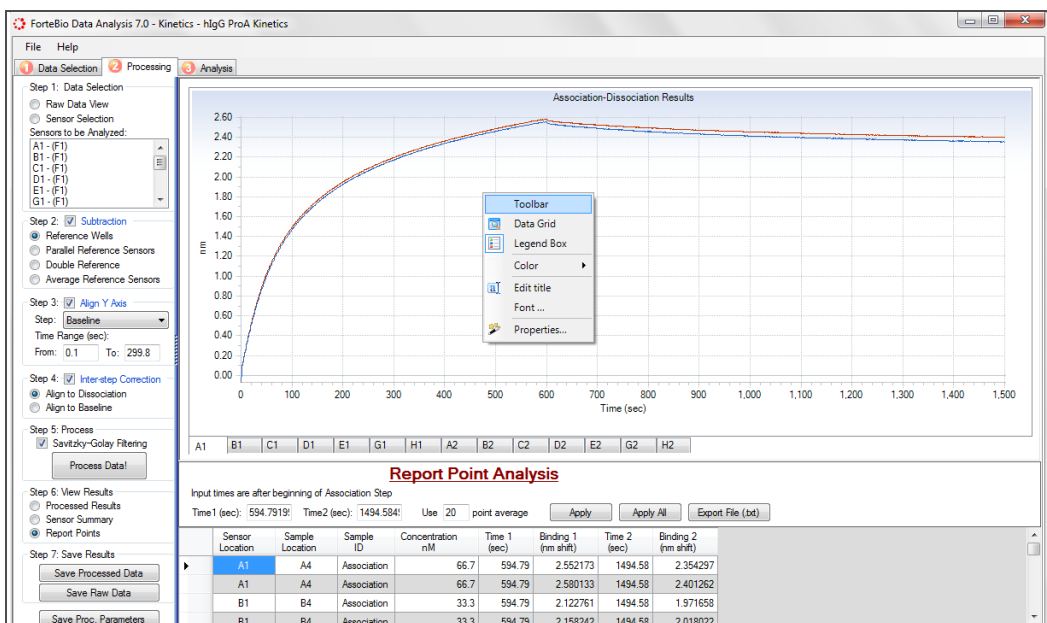

Figure 5-34: Binding Chart Shortcut Menu
1. Right-click the chart and select **Toolbar** (Figure 5-34) to access the printing and copying buttons (the buttons will appear at the upper left of the binding chart).